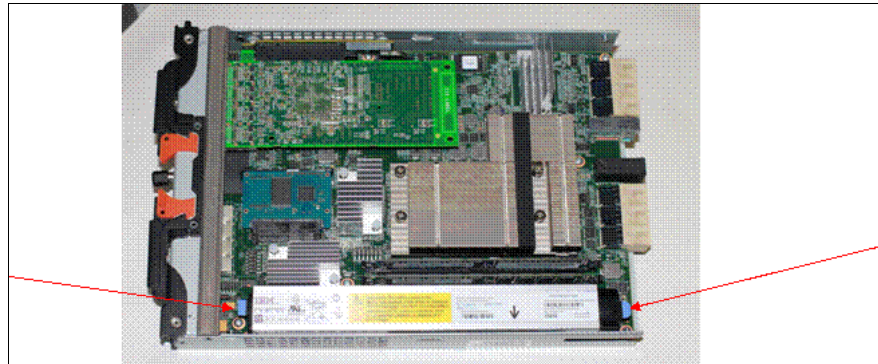

Figure 9-11 BBU replacement: Step 1
1. Grasp the blue touch points on each end of the battery, as shown in Figure 9-11.